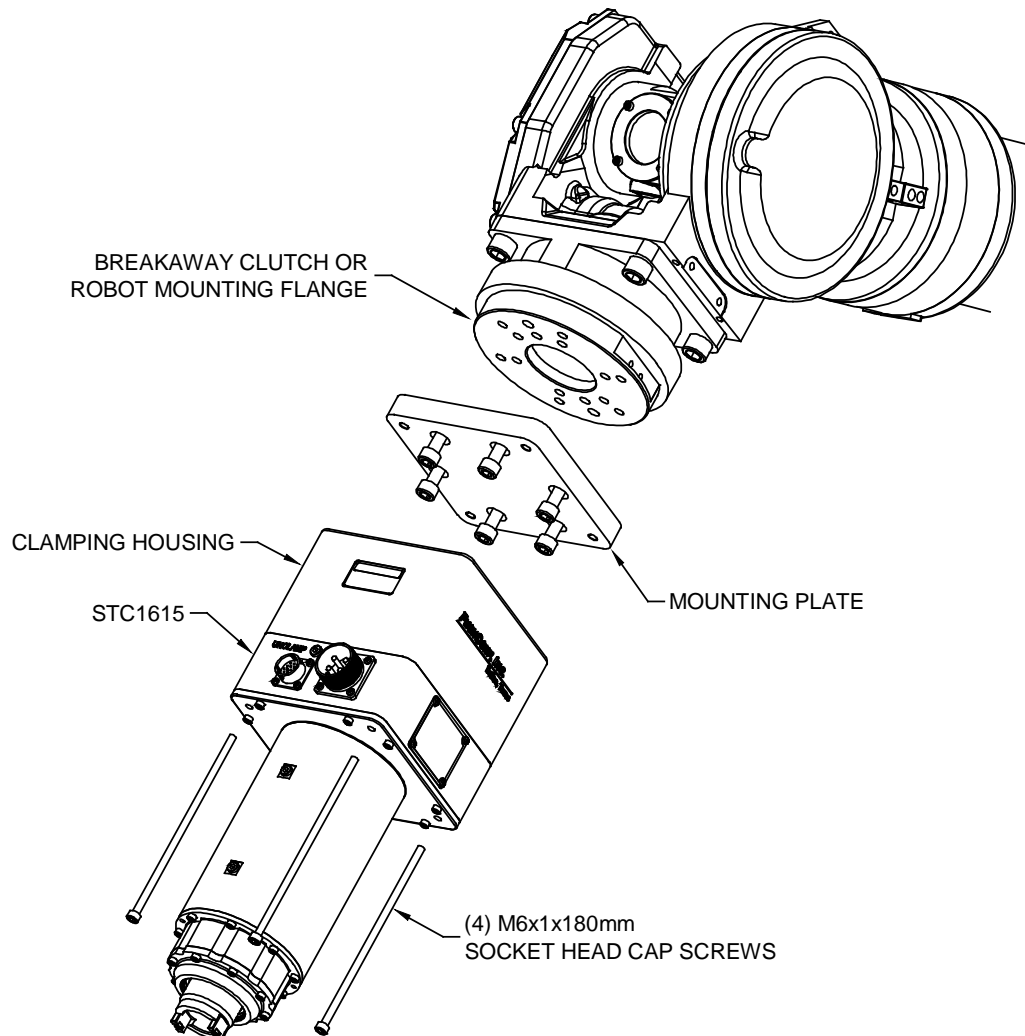

Figure 2. STC1615 Direct Mounting
To mount the STC1615, first attach the Mounting Plate to the Robot Mounting Flange or to the Breakaway Clutch, per the manufacturer's specifications. Once the Mounting Plate is secured, place the STC1615 against the Mounting Plate and install (4) four, M6x1X180mm, Socket Head Cap Screws. (See Figure 2.) Tighten the fasteners to the torque specified in Section 4.0.